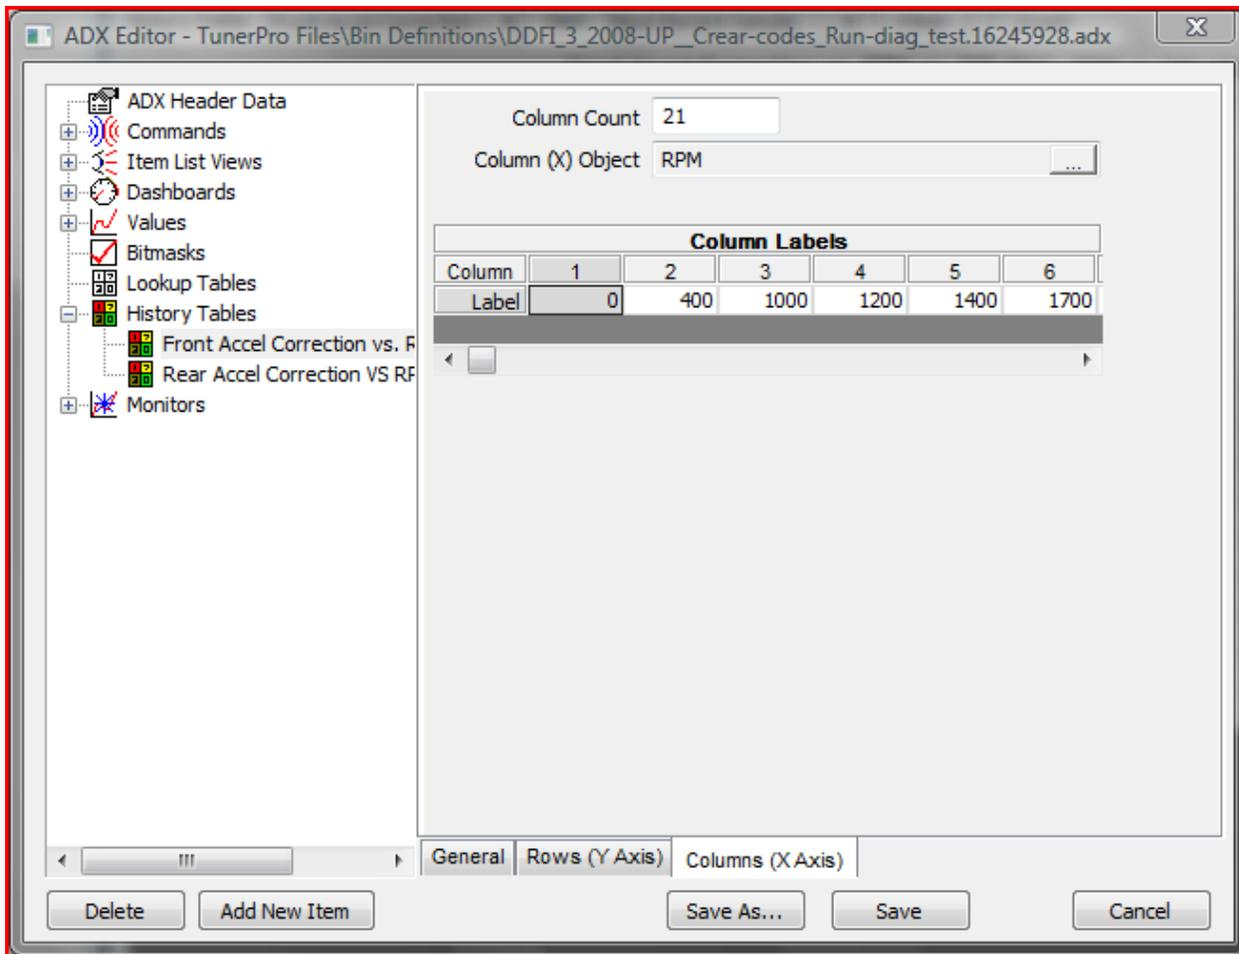

Figure 14: Edit Definition History Tables X Axis RPM
- c. Now select the Columns (X Axis) tab at the bottom of the window. This will bring up a screen similar to Figure 14 below: